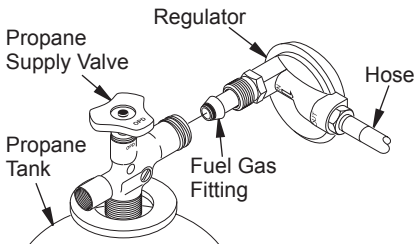

Figure 6 - Regulator Position
2. Connect fuel gas fitting on hose/regulator assembly to propane tank(s). Turn fuel gas fitting counterclockwise into threads on tank. Tighten firmly using a wrench. **IMPORTANT:** Position regulator so that hose leaving the regulator is in a horizontal position (see Figure 6). This places the regulator vent in the proper position to protect it from the weather.